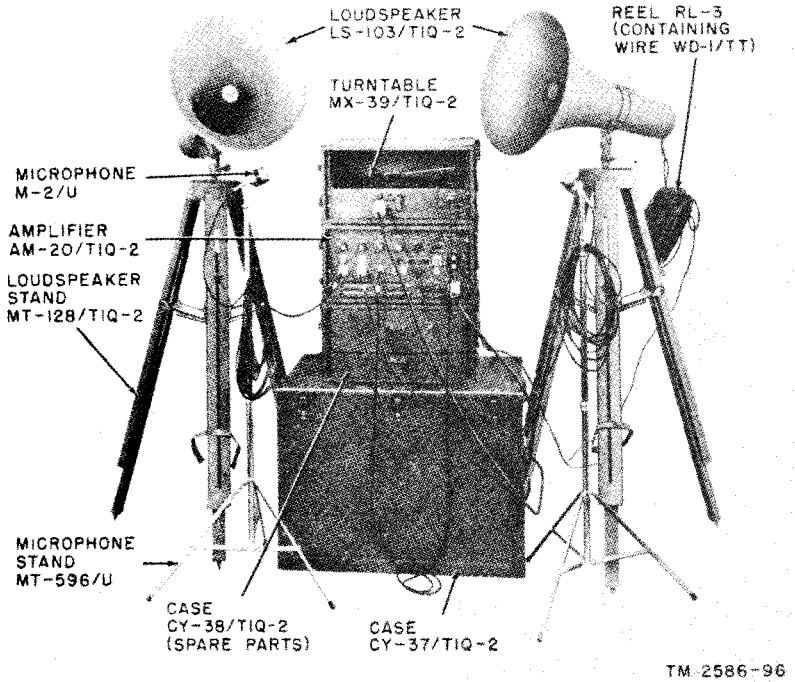

Figure 3. Public Address Set AN/TIQ-20.
(figs. 3 and 4)
- (1) The MT-128/TIQ-2 (fig. 3) is a wooden speaker stand. The speaker stand has three legs which are hinged at the top. Each leg has an extension for raising the speaker. A mounting stud is provided in the center of the top for mounting the speaker on the stand.
A group of running spares is supplied with each PA set. The running spares for the AN/TIQ-2, are located in the spare parts case (fig. 3). The running spares for the AN/TIQ-2A and AN/TIQ-2B are located in the speaker case. Spares are provided for all normally expendable items such as tubes, pilot lamps and fuses. Following is a list of running spares: